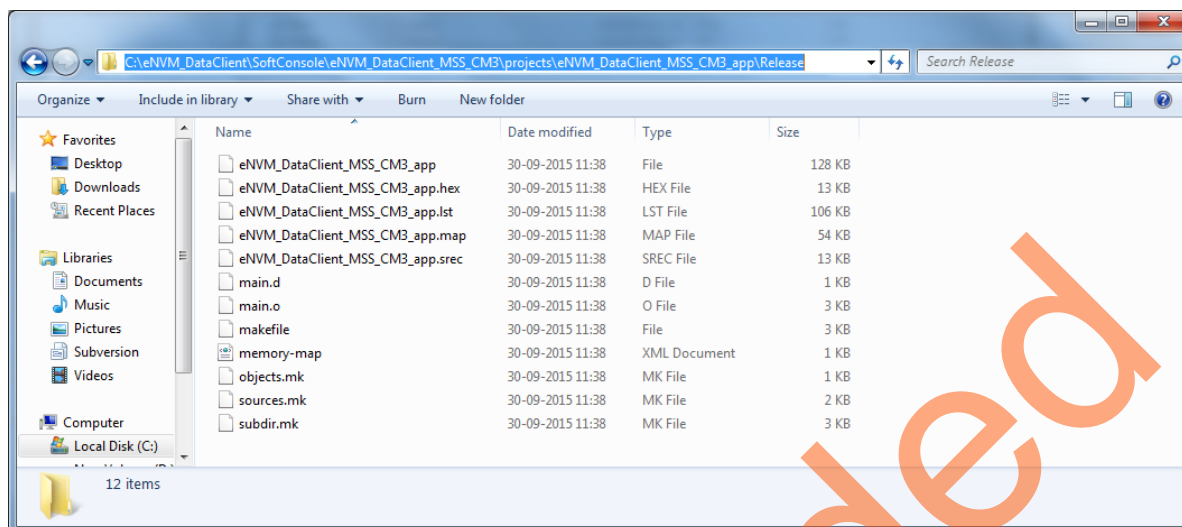
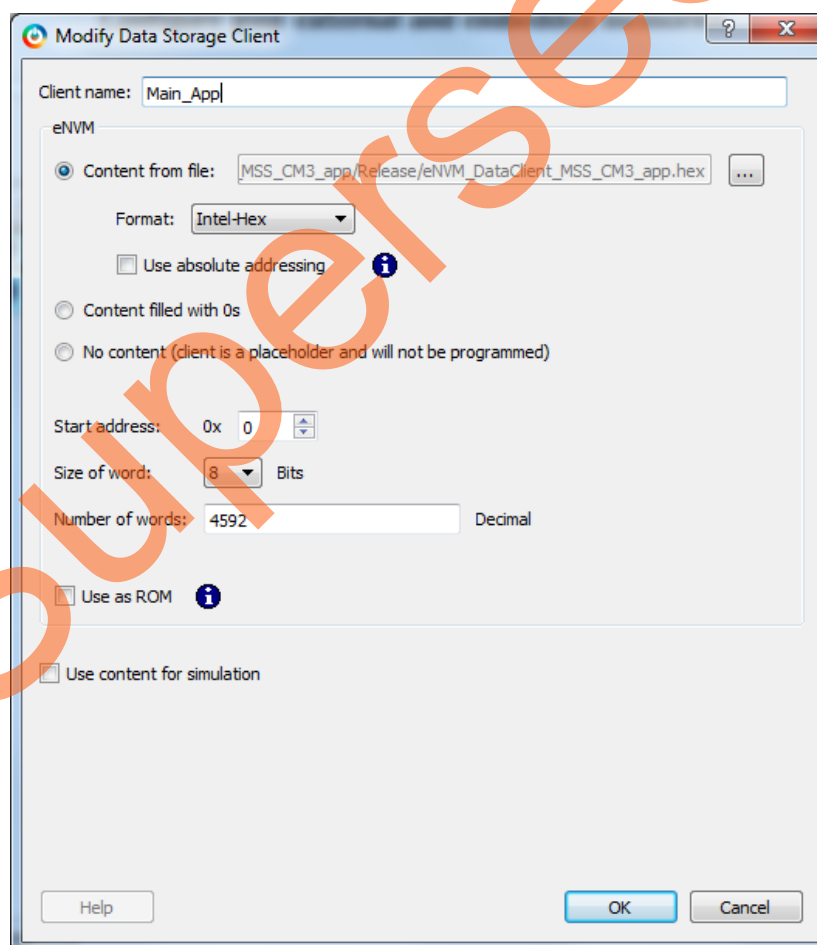

Figure 16 • Executable Image in Release Folder
Figure 17 • Add Data Storage Client Window
5. Browse for the `.hex` file generated in the SoftConsole project after building an executable image in the **Release Mode**. The generated executable image is in the **Release** folder under SoftConsole project workspace, see Figure 16 on page 15 and Figure 17 on page 15.